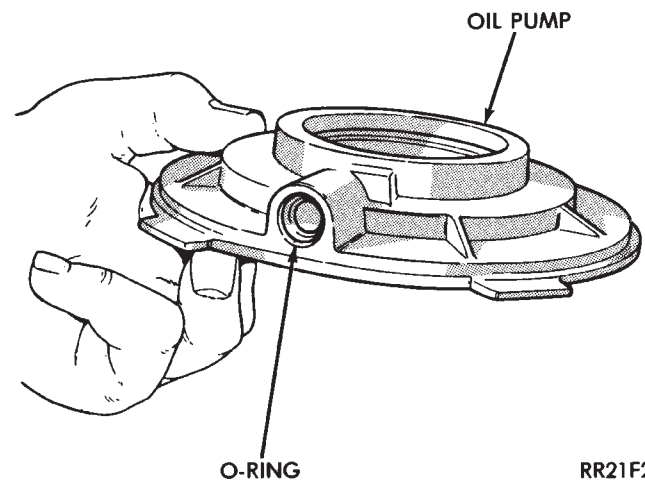
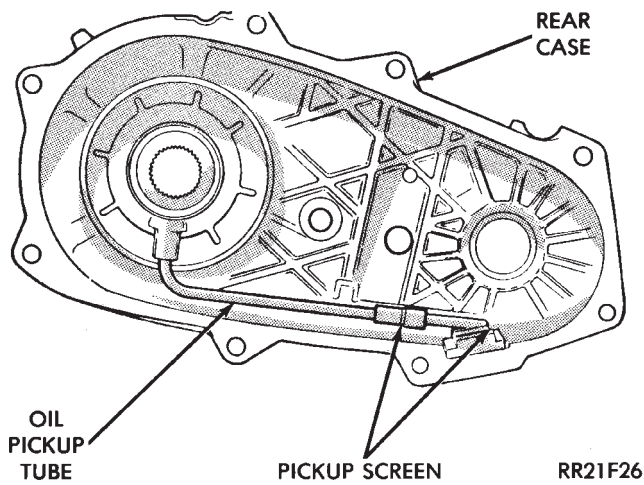

Fig. 65 Pickup Tube O-Ring Installation
Fig. 66 Pickup Tube, Oil Screen And Pump Installation
(2) Install new pickup tube O-ring in oil pump (Fig. 65).
(3) Prime oil pump by pouring transmission fluid into pump through pickup tube opening.
(4) Insert pickup tube in oil pump. Then attach oil screen and connecting hose to pickup tube (Fig. 66).
(5) Install assembled pump, pickup tube and screen in rear case. Be sure screen is seated in case slot as shown (Fig. 66).
(6) Install magnet in front case pocket.